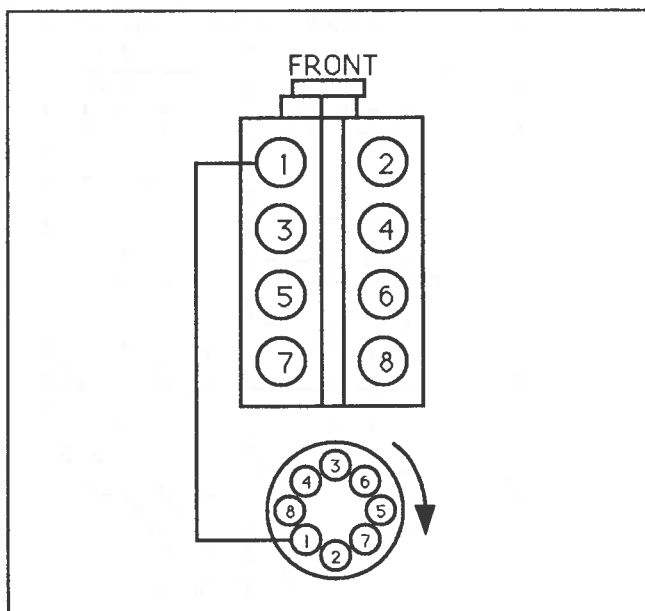

Figure 6-21. Ignition Wiring (Left-Hand Rotating Engine)
12. Install spark plug wires (if removed) as shown in Figures 6-21 and 6-22.